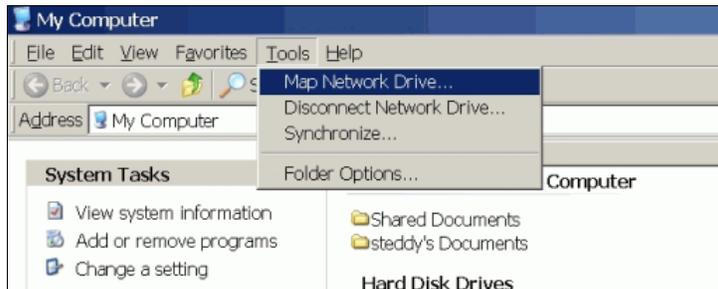

Figure A-1 Map Network Drive
- a. Click **Tools** → **Map Network Drive**, as shown in Figure A-1.